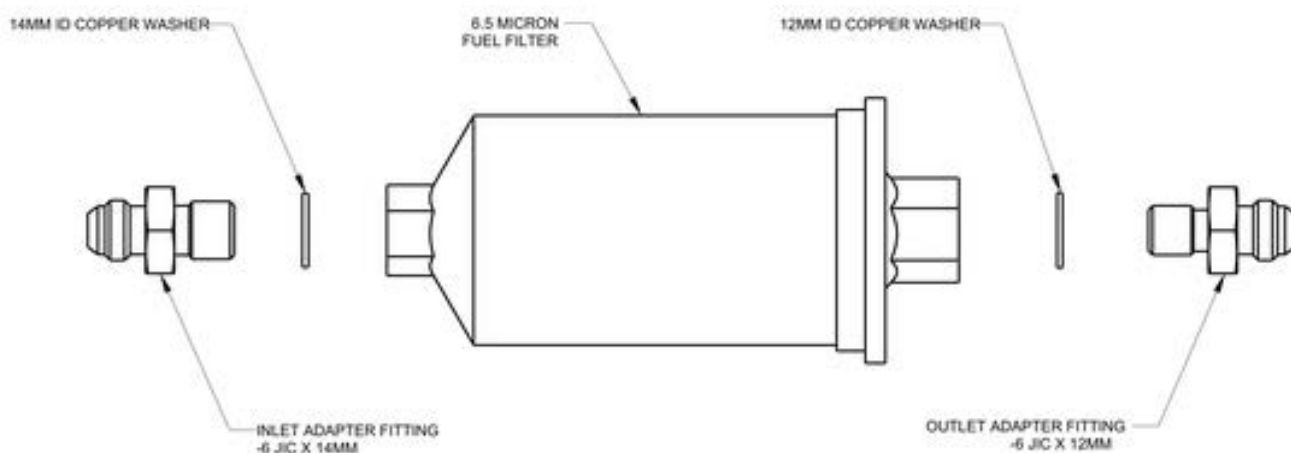

FIGURE 11-24
11. Use two 3/4 wrenches to remove the inlet adapter fitting from the old filter. Discard the 14mm washer. See Figure 11-24.
1. Place a new 14mm ID copper washer, that came with the new filter, on the 14mm adapter fitting. Thread it into the new 6.5 MICRON FUEL FILTER. Torque to 260-280 in-lbs using two 3/4 wrenches. See Figure 11-24.